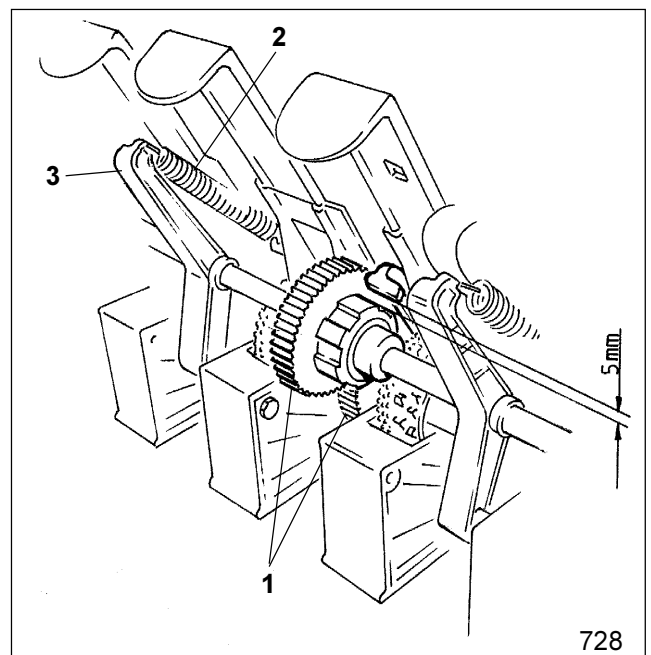

Fig. 18.31
- Engage the drive pinions (Fig. 18.31/1) of the counter shaft and of the seed shaft.
- Reattach the coil springs (Fig. 18.31/2) onto the swivel bearings (Fig. 18.31/3).